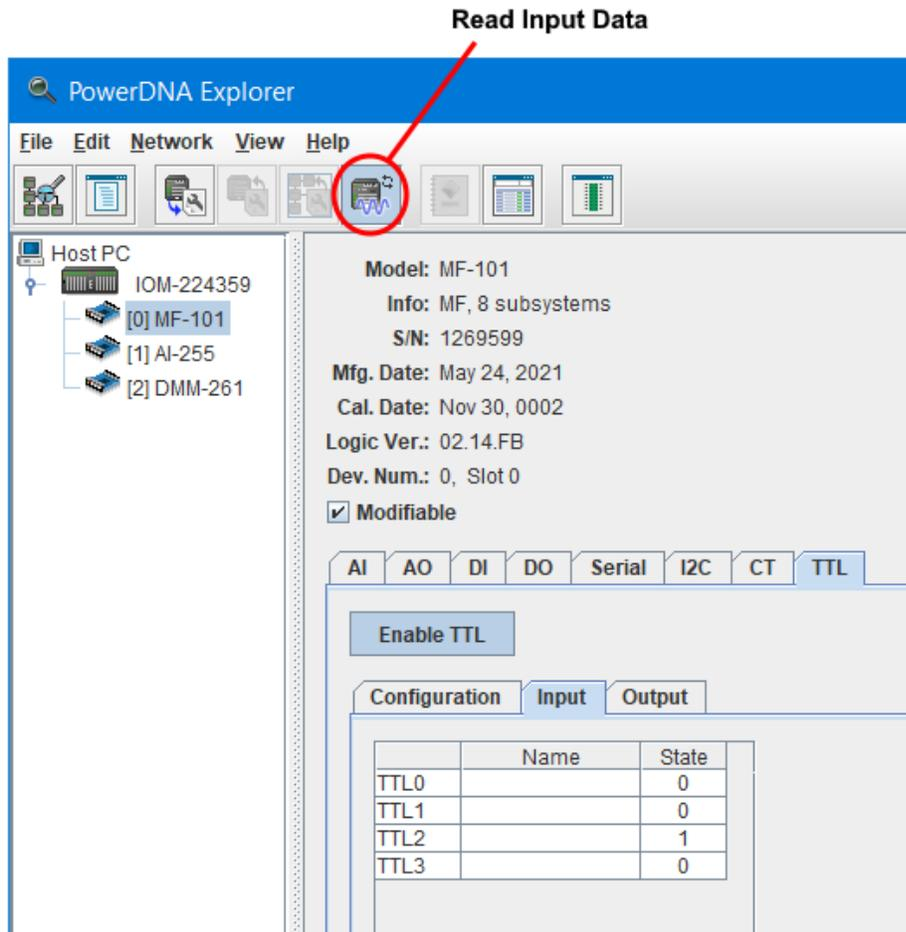

Figure 5-24 PowerDNA Explorer TTL Tab, Input Subtab
5.6.10.2 Read TTL Port Click the **Read Input Data** button to read the state of all four TTL channels. The TTL Input subtab (**Figure 5-24**) contains the following columns: